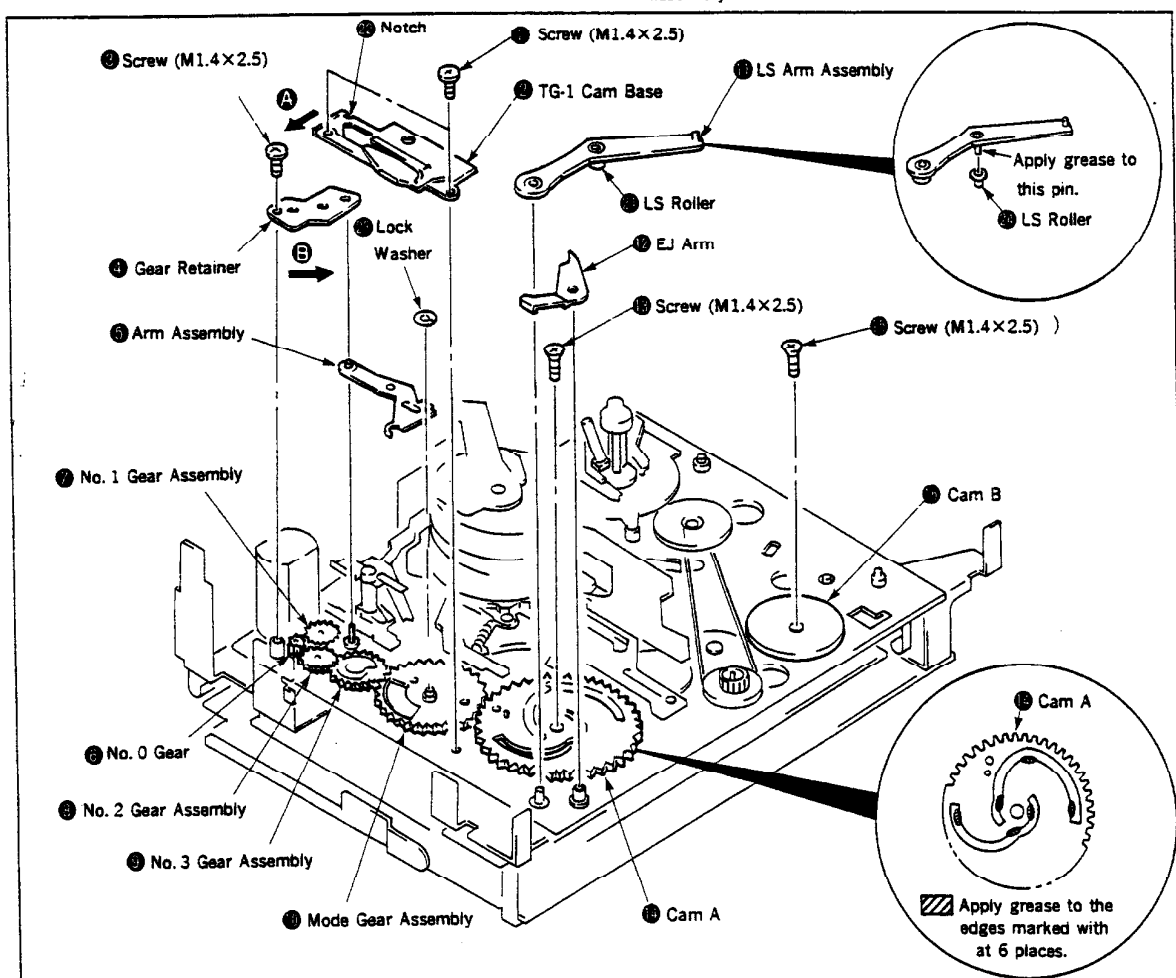
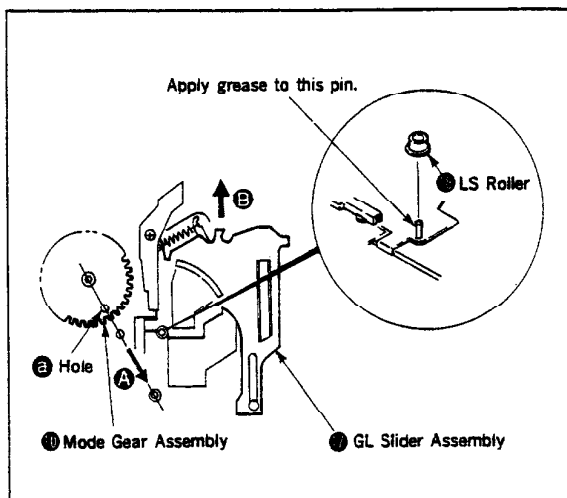

Fig. 29
Fig. 30
3-15 PHASE ADJUSTMENT(Fig. 29)
- 1) Face the hole ㉓ of the mode gear assembly ㉔ to a direction of the arrow ㉕, move the GL slider assembly ㉖ in a direction of the arrow ㉗, apply molyton grease to the pin of the GL slider assembly ㉘, and mount the LS roller ㉙. (Fig. 30)
- 10) Seeing to it that the EJ arm ⑱ and the LS roller ⑯ of the LS arm assembly ⑰ are put in the groove ㉝ of the cam A ㉚, mount them in that order. (Fig. 29 and Fig. 30)